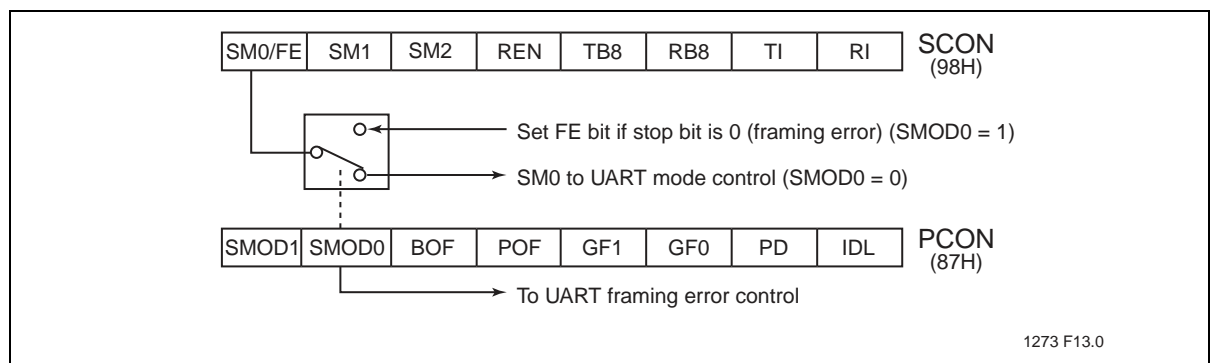
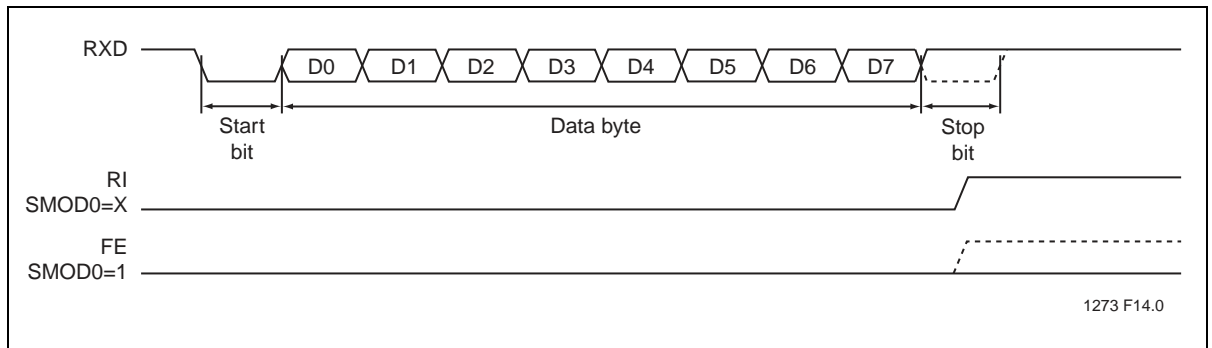
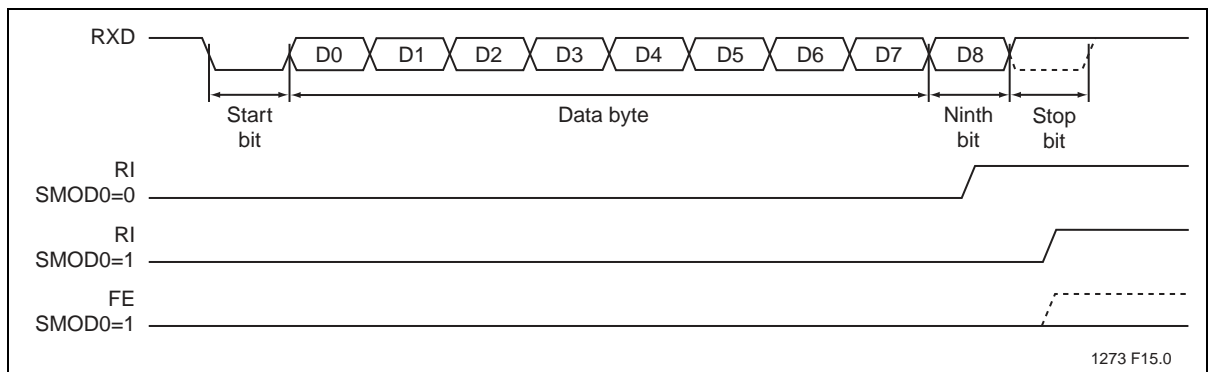

Figure 17: Framing Error Block Diagram
Figure 18:UART Timings in Mode 1
Figure 19:UART Timings in Modes 2 and 3
Framing Error Detection is selected by going to the PCON register and changing SMOD0 = 1 (see Figure 17). If a stop bit is missing, the Framing Error bit (FE) will be set. Software may examine the FE bit after each reception to check for data errors. After the FE bit has been set, it can only be cleared by software. Valid stop bits do not clear FE. When FE is enabled, RI rises on the stop bit, instead of the last data bit (see Figure 18 and Figure 19).